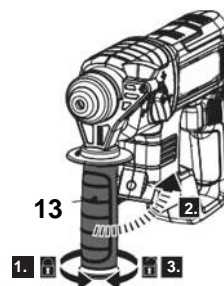

Fig. 12
1. Turn the auxiliary handle (13) anticlockwise to loosen it (Fig. 12, step 1).
2. Rotate the auxiliary handle (13) along with the collar (14) to a desired position (Fig. 12, step 2).
3. Firmly clamp the auxiliary handle (13) before each use (Fig. 12, step 3).